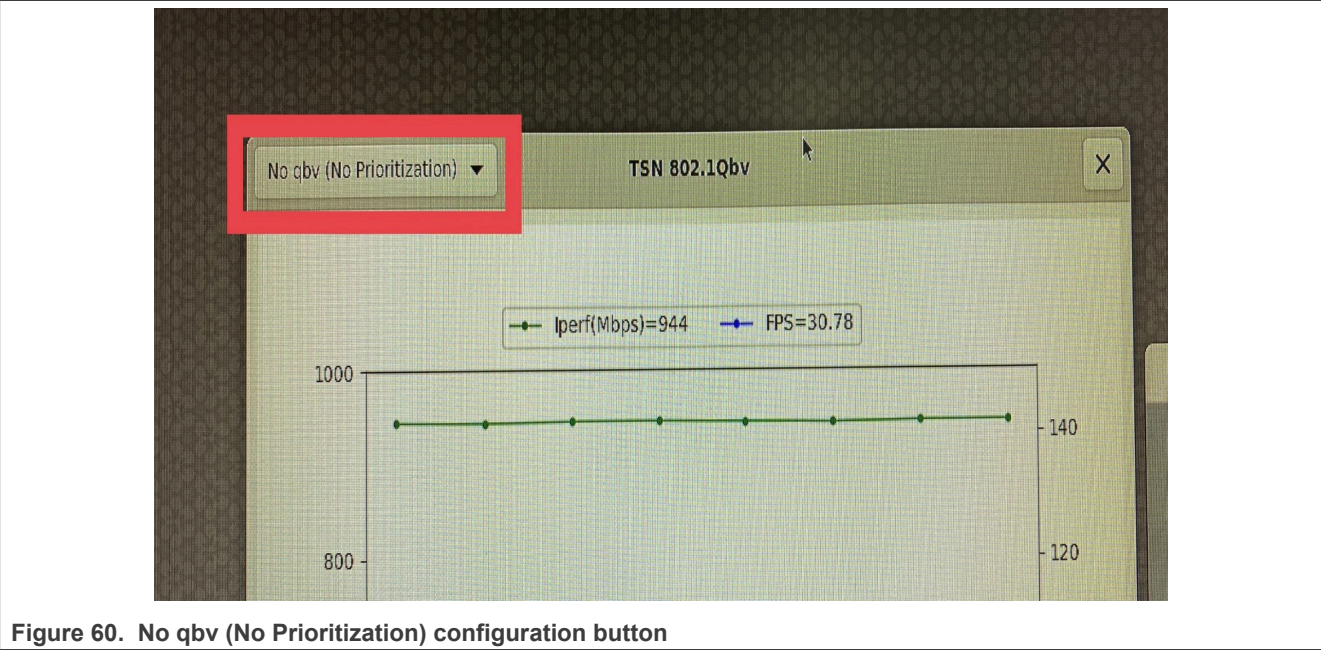
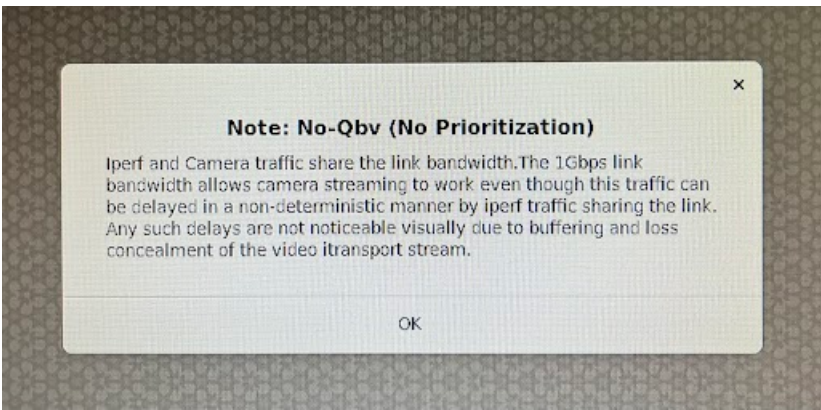

Figure 60. No qbv (No Prioritization) configuration button
Figure 61. About No-Qbv (No Prioritization) pop-up
- After clicking the **No qbv (No Prioritization)** button, as shown in Figure 60, a pop-up with a message appears, as shown in Figure 61.